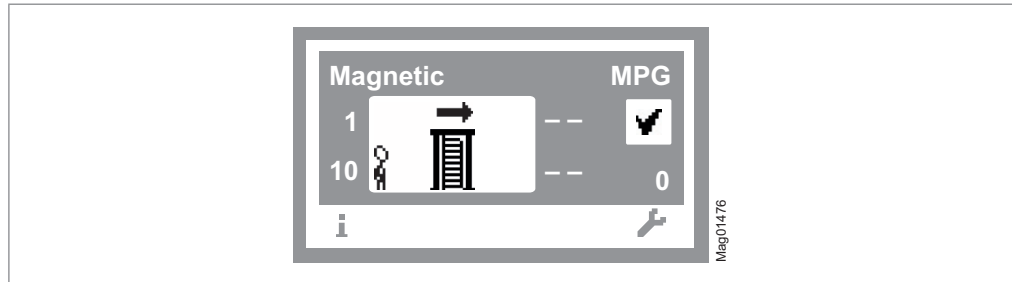

Fig. 10: Example "Operational view"
12. Press the left button «» repeatedly until the operational view is displayed again. Page 29, Fig. 10.